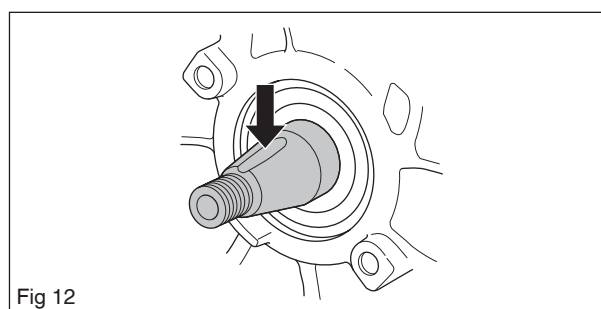

Fig 12
5. Fit the flywheel onto the crankshaft pin. Turn the flywheel until the key fits into the key slot on the shaft. See figure 12. Tighten the screw for the flywheel.